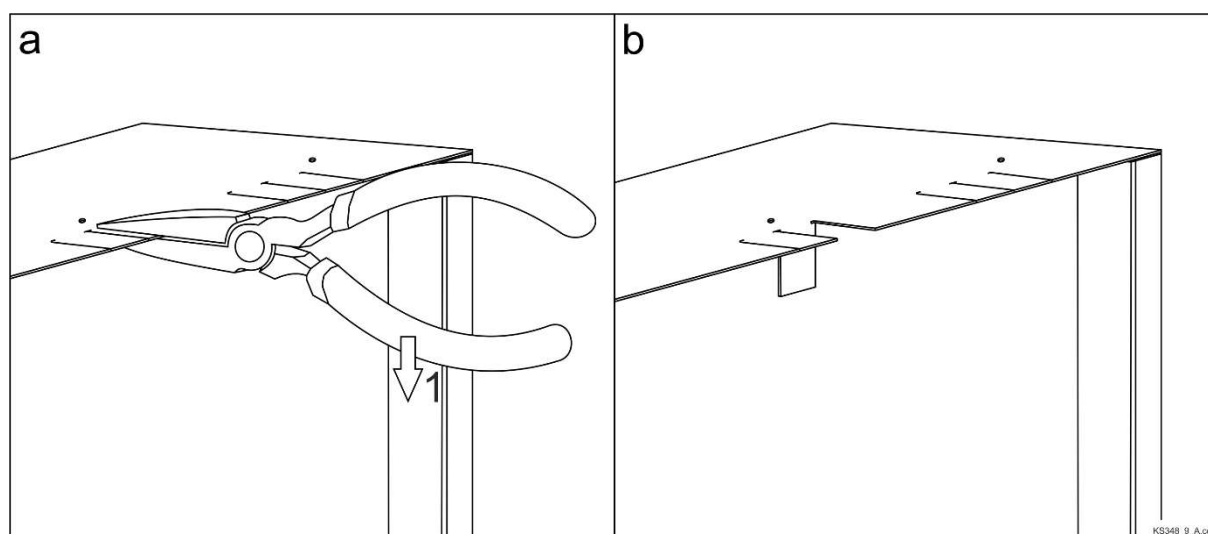

Fig. 4 Forming a cable entry hole in the bottom or top wall of the enclosure
10. To introduce cables beneath the enclosure from the upper or lower wall of the enclosure, form the cable holes as indicated in Fig. 4.